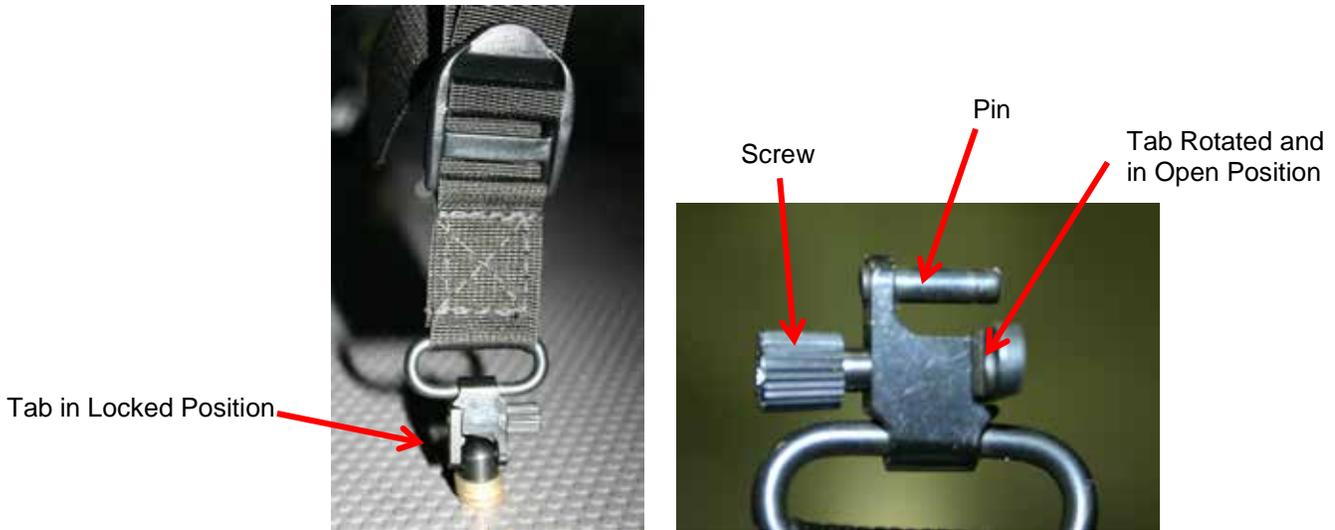

Figure 4 – Cross Bar Strap Attachment
- (a) Disconnect the two cinched nylon straps holding the seat cross bar in place. Unscrew and push the screw in to allow the tab to rotate and slide pin out of seat base connector (see Figure 4).
- (b) Connect the two cinched nylon straps to the floorboard to hold the seat cross bar in place (see Figure 4). Install the seat cushion by lining up the hook and loop tape on the bottom of the seat cushion and top of rear seat.